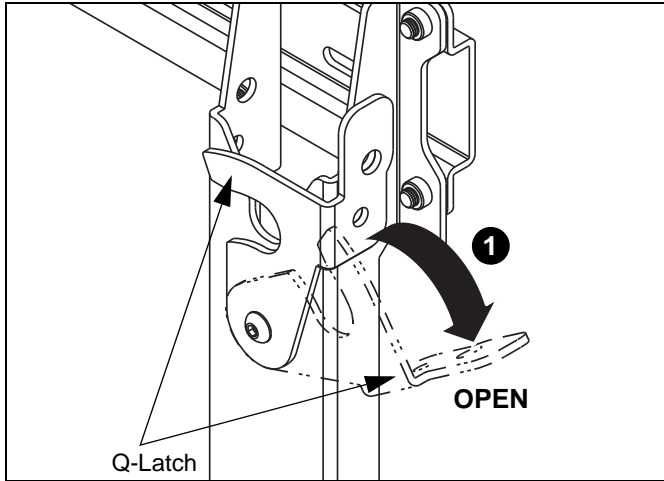

Figure 3
1. Move Q-Latches on mount to the **OPEN** position. (See Figure 3)